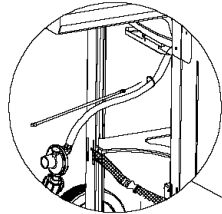

Figure 1.
- Insert Upper Cross Brace to preassembled Ring Bracket. See figure 1.